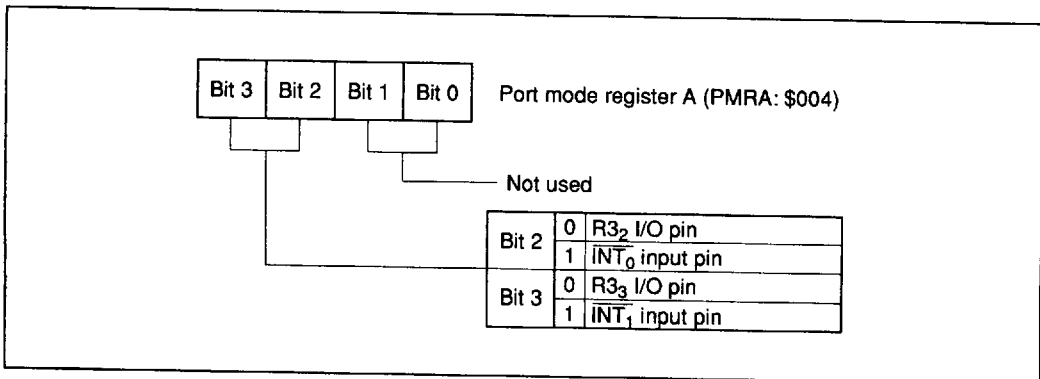

Figure 10 Port Mode Register A
**External Interrupts ( $\overline{INT}_0$ ,  $\overline{INT}_1$ ):** The external interrupt request inputs ( $\overline{INT}_0$ ,  $\overline{INT}_1$ ) can be selected by port mode register A (PMRA: \$004) (figure 10).
**Port Mode Register A (PMRA: \$004):** Port mode register A is a 4-bit write-only register which controls the  $R3_2/\overline{INT}_0$  pin and  $R3_3/\overline{INT}_1$  pin as shown in figure 10. Port mode register A will be initialized to \$0 by MCU reset.